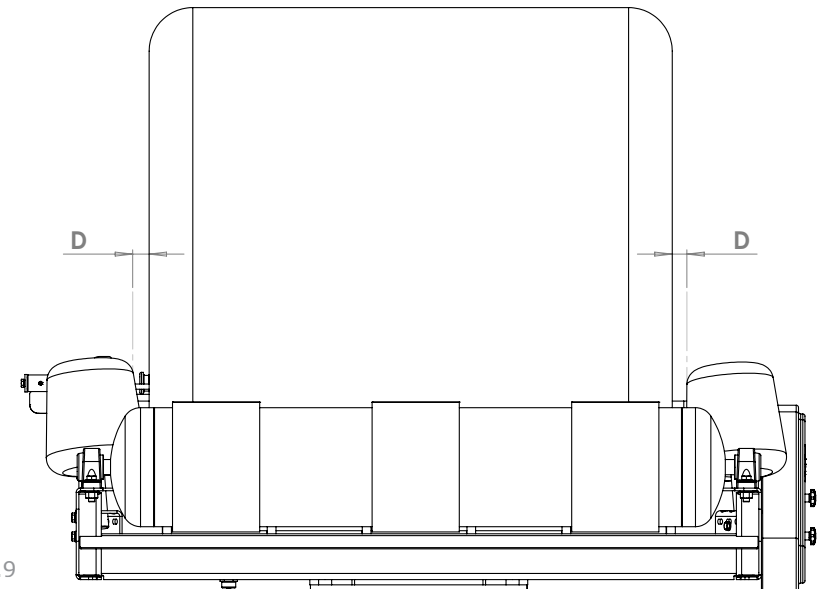

Fig. 6.9
To allow for stability of the bale during the wrapping process the support rollers can be adjusted for different sized bales. It is important that the support rollers are adjusted so that the bale is in the middle of the table. When the bale is on the table (See Fig. 6.9) the distance between the ends of the bale and the support rollers (D) should be  $<50\text{mm}$ .